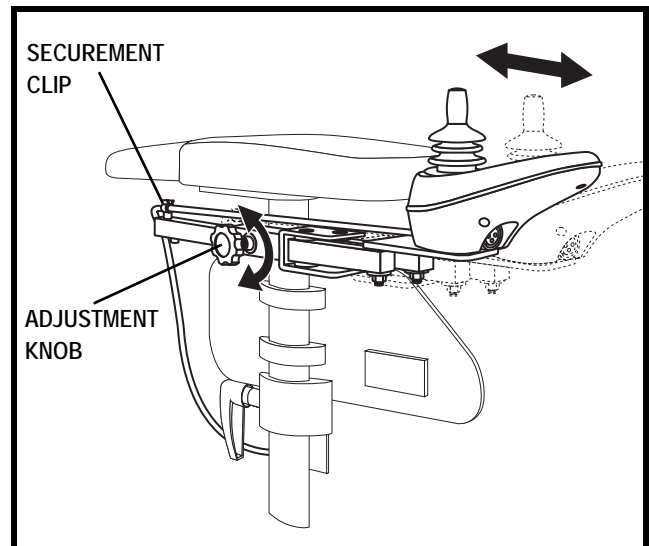

Figure 23. Controller Position
4. Loosen the adjustment knob on the armrest where the controller is currently located. **See figure 23.**
5. Loosen the adjustment knob on the armrest where the controller will be installed. **See figure 23.**
1. Loosen the adjustment knob on the armrest. **See figure 23.**